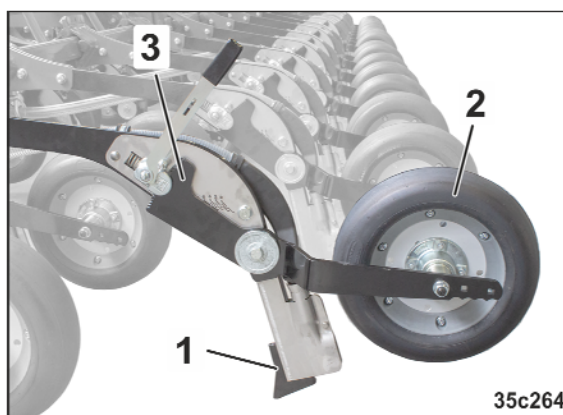

Fig. 79
For seed placement, the "on grip" ConTeC pro coulters (Fig. 79/1) penetrate into the soil. Supported by the trailing press rollers (Fig. 79/2), the ConTeC pro coulters maintain an adjustable constant seed placement depth.
- forms the seed furrow (Fig. 79/1).
The trailing press roller (Fig. 79/2)
- limits the set seed placement depth (Fig. 79/3).